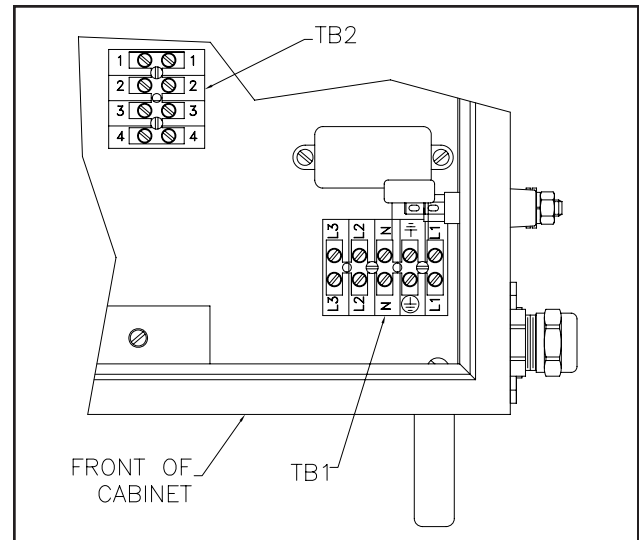

Figure 16a: Location of TB1 and TB2 In Power Supply
1. **Ensure the AC line cord is unplugged** and remove the AC inlet receptacle wiring from TB1-N, TB1- L1 and TB1-EARTH GROUND (see Figures 16a and 16b).
A set of relay contacts for high voltage (CR1) and fault (CR2) conditions is provided at TB2-4 and TB2-2 (see Figure 16a). One end of these relay contacts are connected together and also connected to a source input terminal at TB2-3 (see Figure 16a). When a source voltage is present at TB2-3 and either the high voltage is on or a fault condition occurs, the source voltage will become available at the output end of the corresponding contact. Maximum contact ratings are as follows: